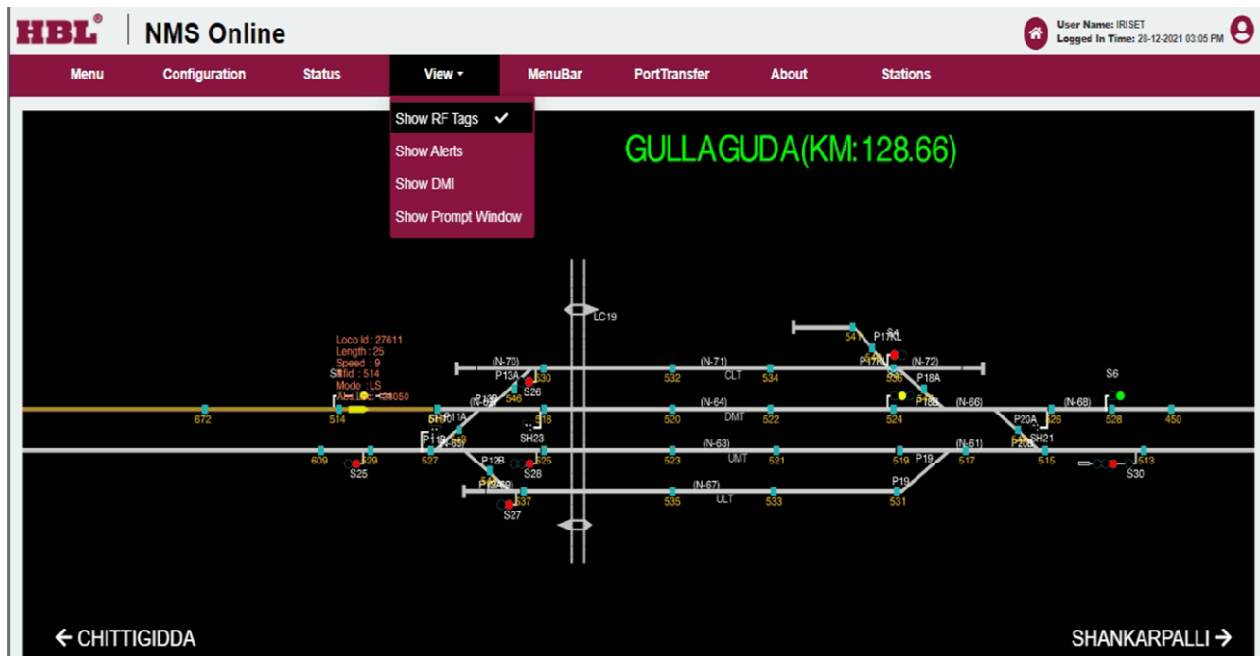

Fig 6. Movement of Loco
4. Now whatever the movement of loco in the connected section will be visible on the NMS screen with loco icon & loco with load icon. Loco will display 6 values like Loco ID , speed, Absolute location , RFID, Length of train & mode of loco as shown in fig 6..